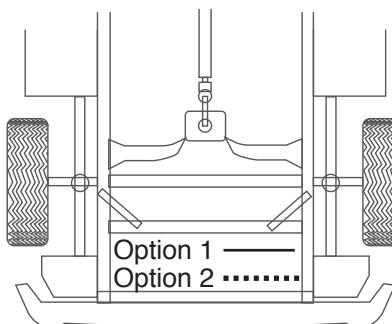

fig. 9
6. Route the air line along the frame to the air fitting on the air spring (fig. 9). Keep AT LEAST 6" of clearance between the air line and heat sources, such as the exhaust pipes, muffler, or catalytic converter. Avoid sharp bends and edges. Use the plastic tie straps to secure the air line to fixed, non-moving points along the chassis. Be sure that the tie straps are tight, but do not pinch the air line. Leave at least 2" of slack to allow for any movement that might pull on the air line (fig. 9).